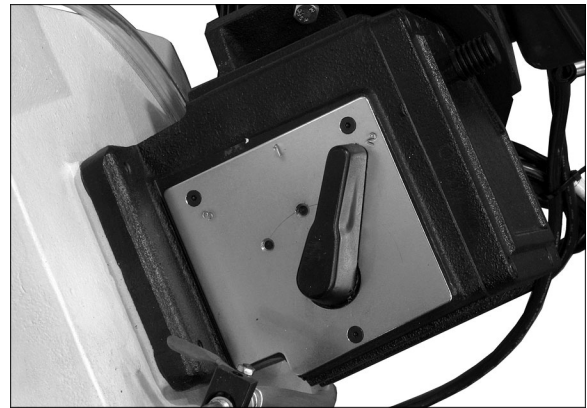

Figure 23
2. Turn lever (Figure 23) to desired setting –